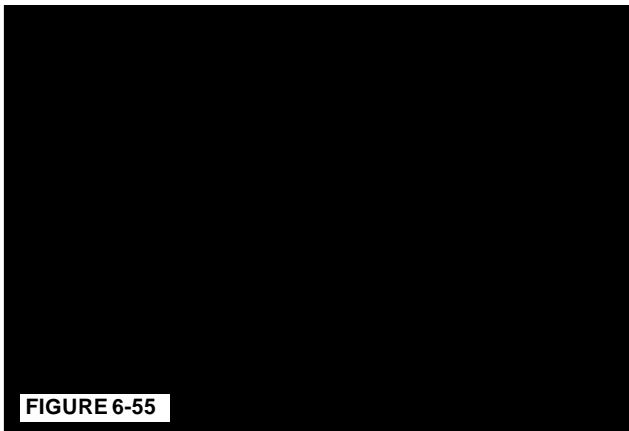

FIGURE 6-55
3. a. For single bearing generators, slide the SAE adapter over the fan and secure to the main stator and frame assembly with capscrews torqued per section 12. (Figure 6-55 and 6-56.) It may be necessary to raise the rotor assembly slightly to allow the mounting of the SAE adapter.